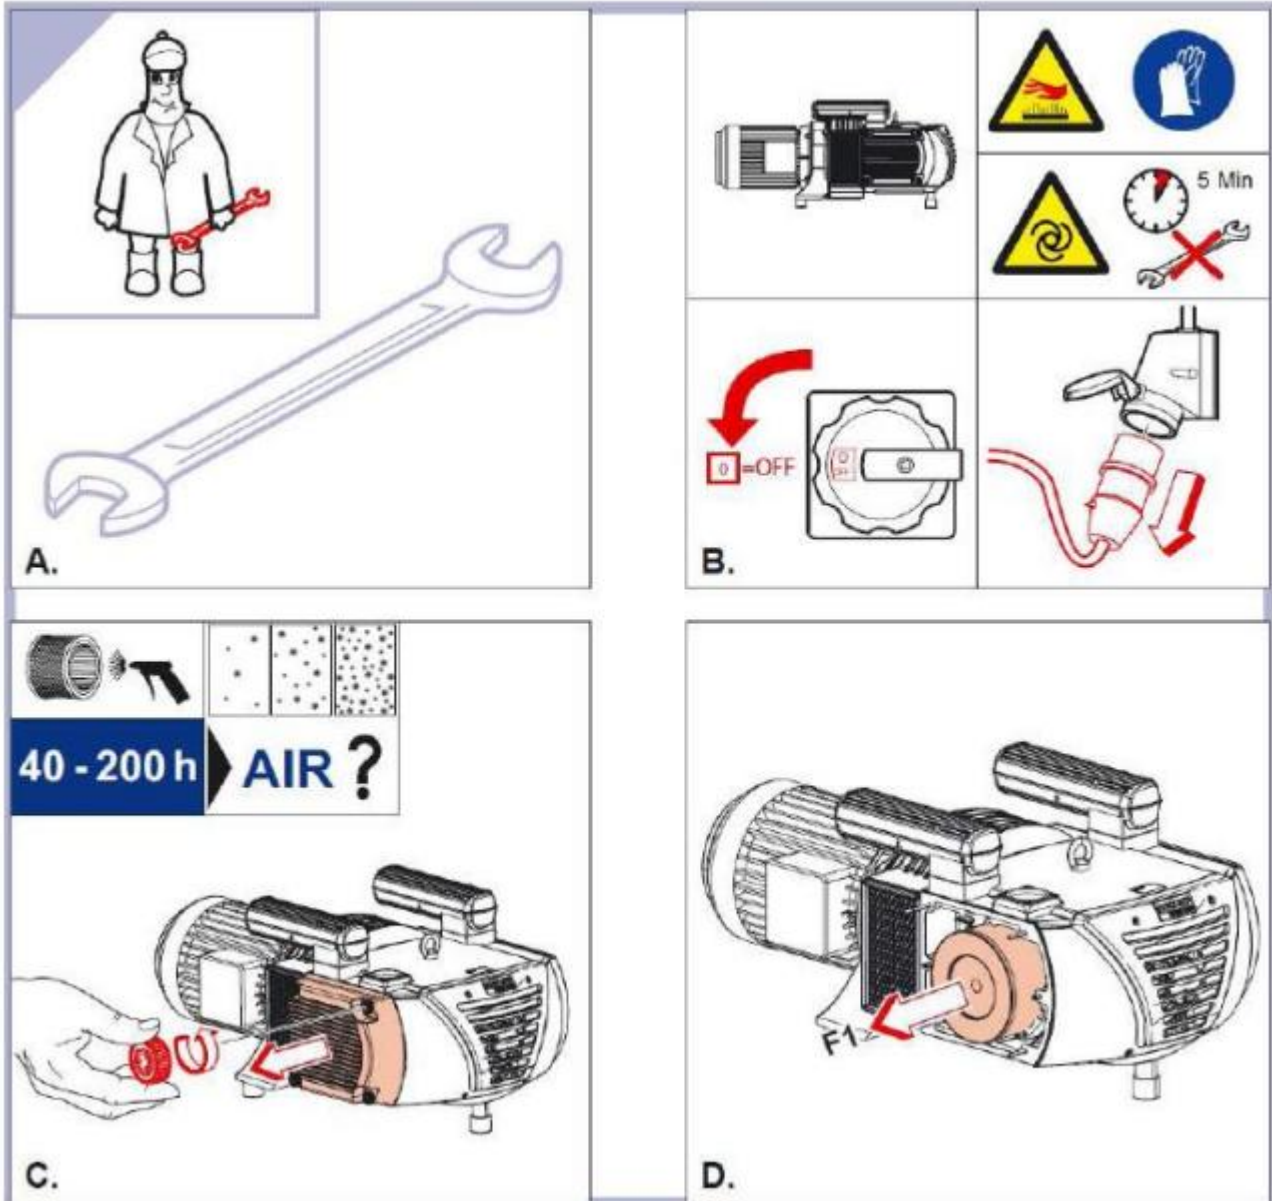

Fig.7.3
- a. The maintenance can only be conducted by professional repair personnel according to Fig. 7.3, 7.4, 7.5.
- b. Switch off the power switch before maintenance. Since compressed air makes the vacuum pump generate high temperature, it shall let it cool down before maintenance, as shown in Fig.7.3(B).
- c. Remove the right front shield, take out the filter elements F1, F2, F3 and clean the filter elements (replace in case of much more greasy dirt) and the inside casing of the filter elements with the air blow gun, as shown in Fig.7.3 and 7.4 (C), (D), (E), (F), (G), (H).